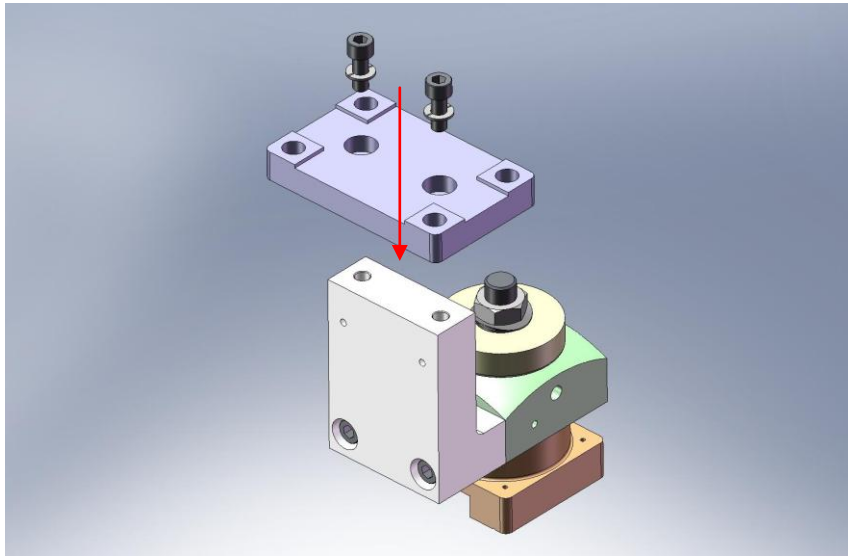

Figure 3.40. Add Base Plate, to complete Vertical Position Sensor Assembly (accept for sensor).
- Mount **Sensor Head Base Plate** to **Vertical Sensor Head Bracket**, as shown in Figure 3.40. Add screws and torque to final spec.